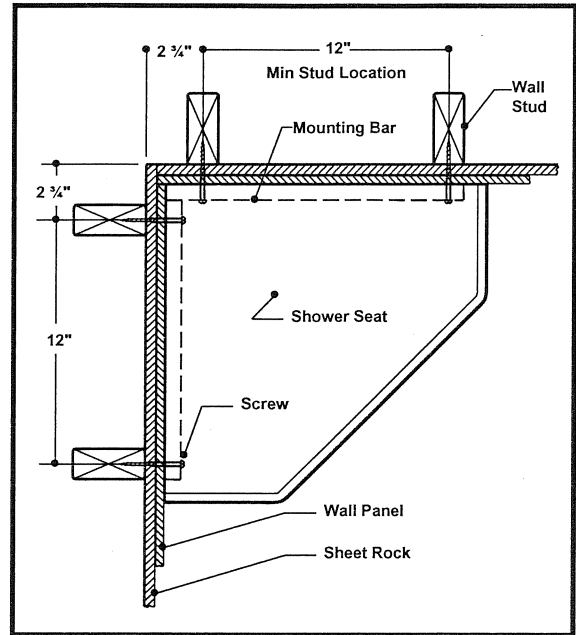
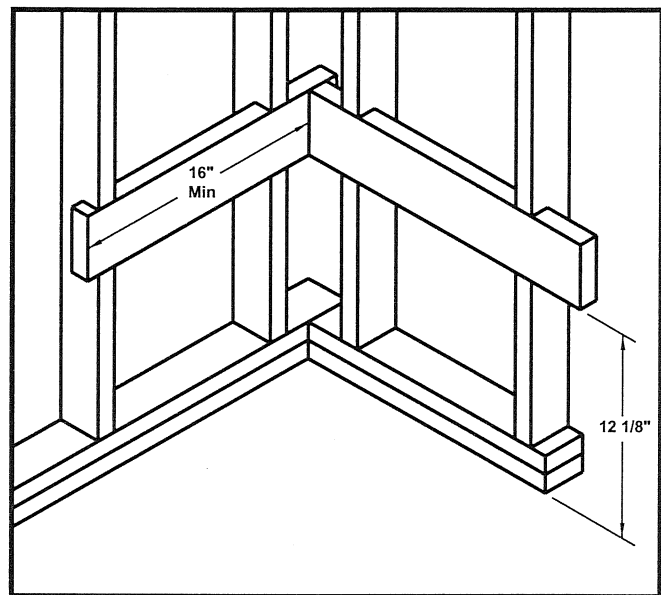

Fig. 1
Fig. 4
Mounting bars must be fastened securely to the studs behind the wall. Pre-drilled holes in the mounting bars will line up with recommended stud locations (See Fig. 1).
- 2 x 6 Lumber 3' long (if required see fig 4)
If framing differs from Fig. 1, notch studs as shown in Fig. 4 and install 2 x 6" boards to provide proper support for the shower seat mounting bars.